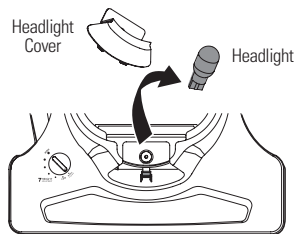

Fig. 29
- Pull the bulb straight out of the socket. (Fig. 29)